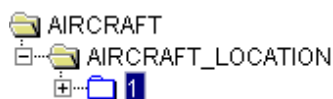

Figure 122 : System – Tree structure versions
- When the new system is created, it is automatically inserted in the systems management by alphabetical order (Figure 122) , and it is automatically edited.